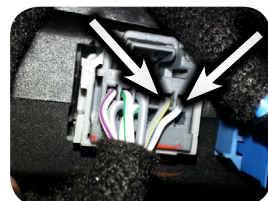

Fig. 2
- b. If you wish to retain the factory reverse camera when the vehicle is equipped with the IO4, IO5 or IO6 audio system, you must solder an RCA end onto the signal wires. The wires you will need can be found at the Human Machine Interface Control Module (HMICM). This module is normally located behind the lower glove box or high in the passenger kick panel. Once you have located the HMICM in the vehicle, locate the 12-pin connector on the far left (Fig 2.). The wires you will need are located in pins 5 and 6. Pin 5- Grey / Yellow - Camera Positive, Pin 6 - White / Blue - Camera Negative. If the vehicle has the base radio (RPO code IO3) please reference installation step 9 above.